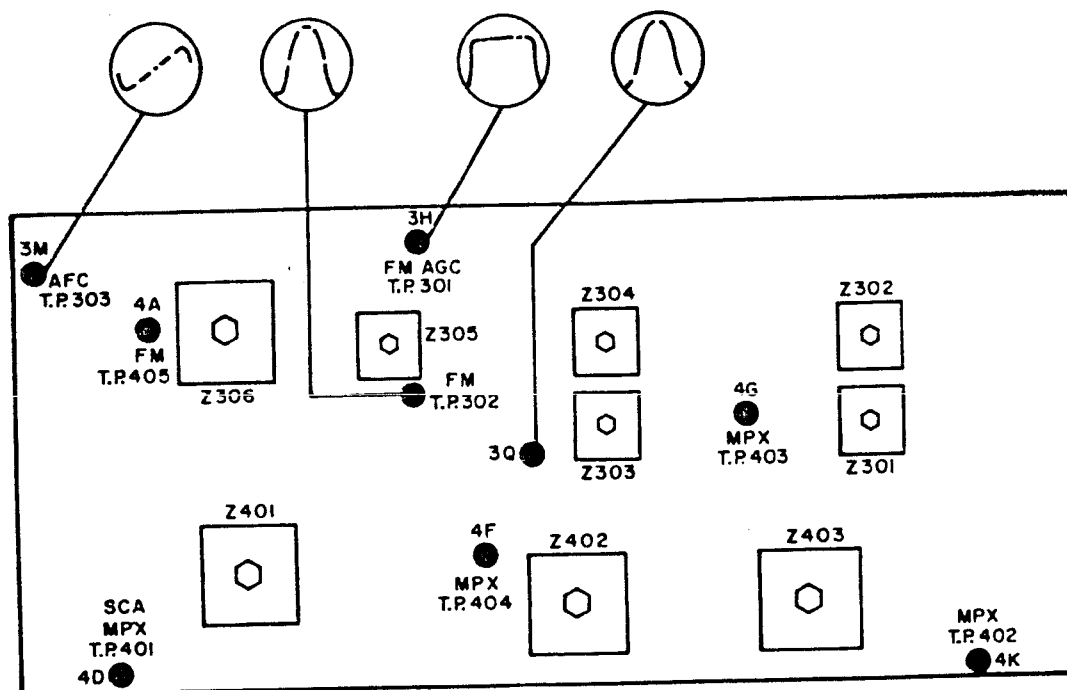

Figure 4. AM-FM IF, MPX, Meter, Muting Board Alignment Location.
(4) Align top and bottom cores of Z503 (on AM RF board) for maximum gain and symmetry (see Figure 4). Reconnect